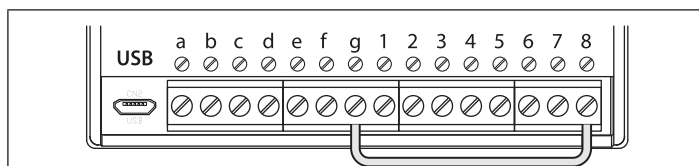

Fig. 63
2. Put a short across terminals g & 8 on the back of the GSM PRO module, as shown in **Fig.63**.